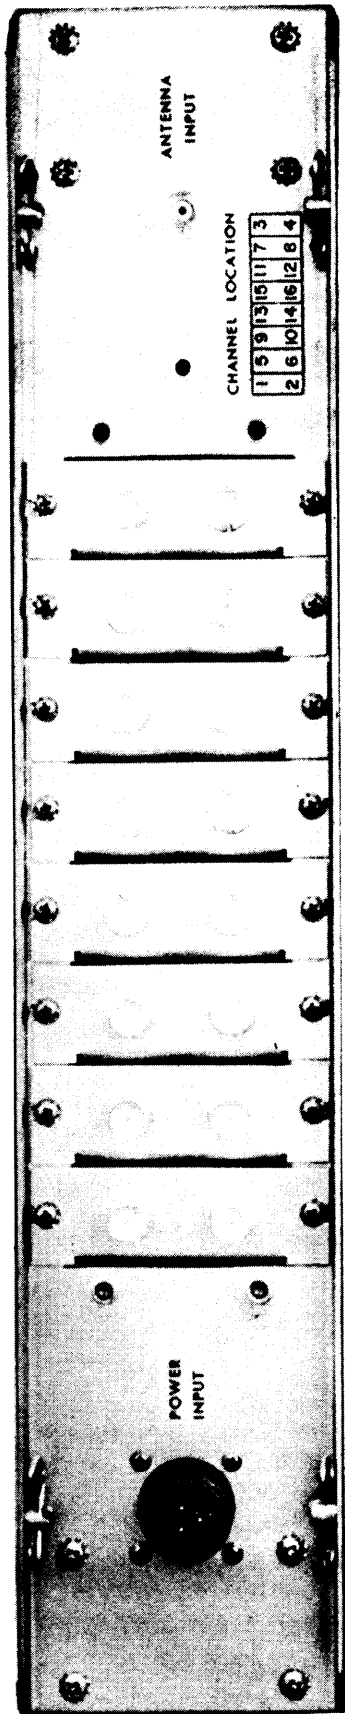

FIGURE 2-1 REAR PANEL, AMC-21B
(1) Make the following connections from external equipment to the AMC-21B. Refer to figure 2-1 for guidance.